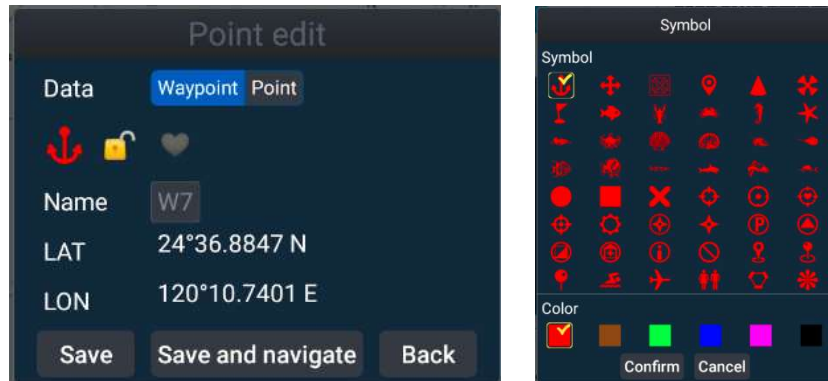

Figure 17 - Point edit.
1. Click **Confirm** to create a waypoint at this location and enter the relevant data as shown in Figure 17.
2. Clicking on the Red symbol icon and the symbol editing window shown in Figure 17 will open. There is a total of 48 symbols and 6 different colors.